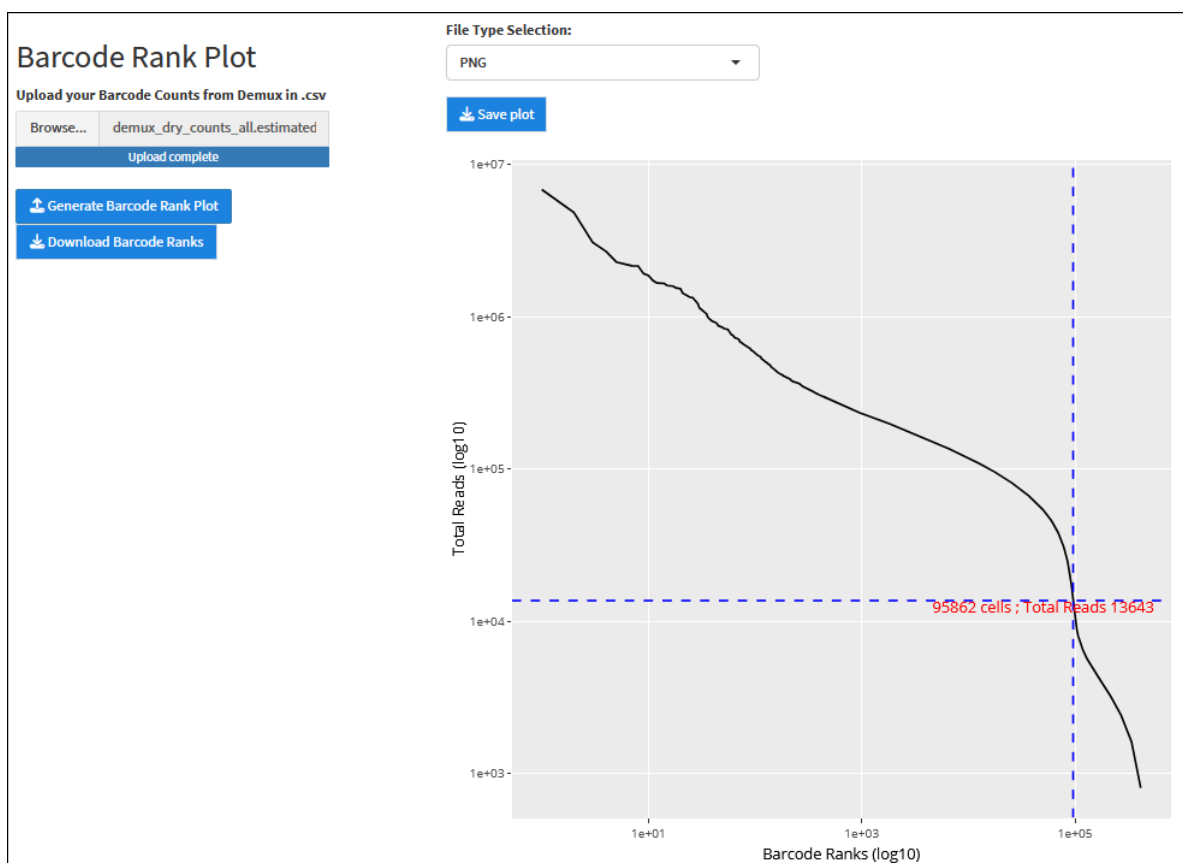

Figure 28. An example of the Barcode Rank plot generated by CogentDS.
3. After the plot is generated, find the intersection point of the vertical and horizontal dotted lines with the knee plot (see Figure 28). At the intersection, there is text displayed that will be used in the next step:
In Figure 28, the text at the intersection of the dotted lines shows:
Using the example from Figure 28, these arguments will be:
Assuming you want to keep 100,000 barcodes based on the knee plot in Figure 28 and change the parameters to:
Based on the knee plot in Figure 28, assuming you want to lower the `min_reads` cutoff and would like to keep barcodes with more than 10,000 reads, change the parameters to:
Based on the knee plot in Figure 28, if you want to keep 100,000 barcodes for demultiplexing, the correct way of setting up the parameters is to make sure the `use_barcodes` parameter is more stringent than the `min_reads` parameter. An example of the command is below. This will result in 100,000 barcodes being demultiplexed.